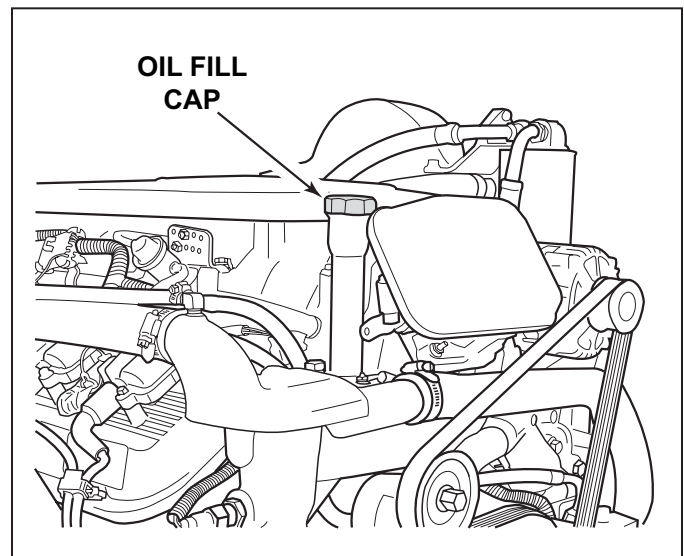

Figure 11-27 Engine Oil Fill (8.1L)
4. Fill the engine with the recommended oil through the oil fill location on the valve cover (Figure 11-27). See **OIL REQUIREMENTS** page 40 and **ENGINE FLUID CAPACITIES** page 67, respectively.